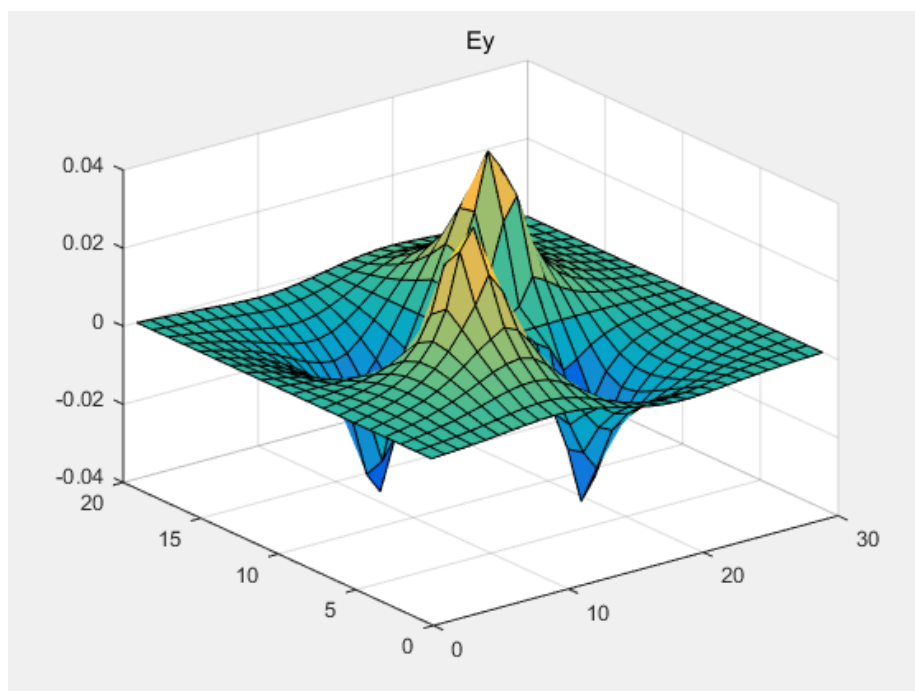

Figure 7: $E_y(x,y)$
- Surface plot for Ey(x,y) is shown in Figure 7.